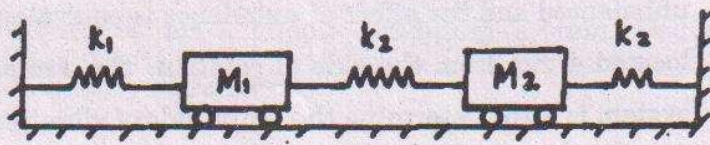

Fig. 4
14. (a) Obtain the natural frequencies and modes shapes of the system indicated in Fig. 4.  $M_1 = 10 \text{ kg} = M_2$ .  $K_1 = 300 \text{ N/cm}$  and  $K_2 = 200 \text{ N/cm}$ .